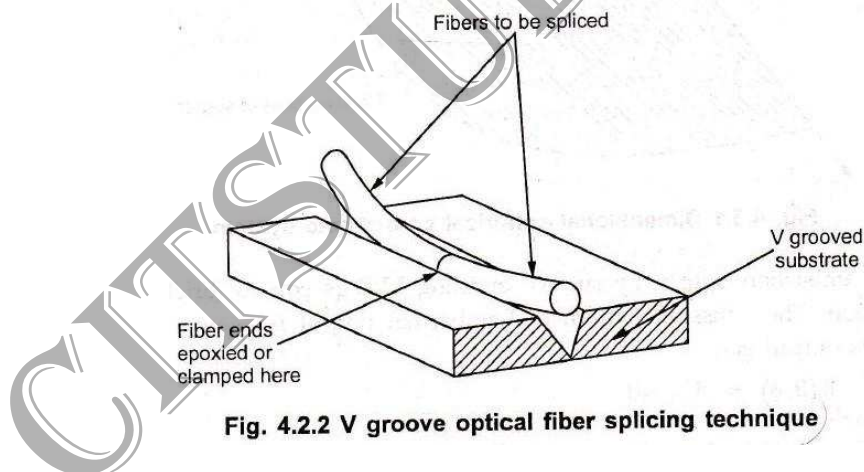

Fig. 4.2.2 V groove optical fiber splicing technique
- x V groove mechanical splicing provides a temporary joint i.e fibers can be disassembled if required. The fiber ends are butted together in a V – shaped groove as shown in Fig. 4.2.2.